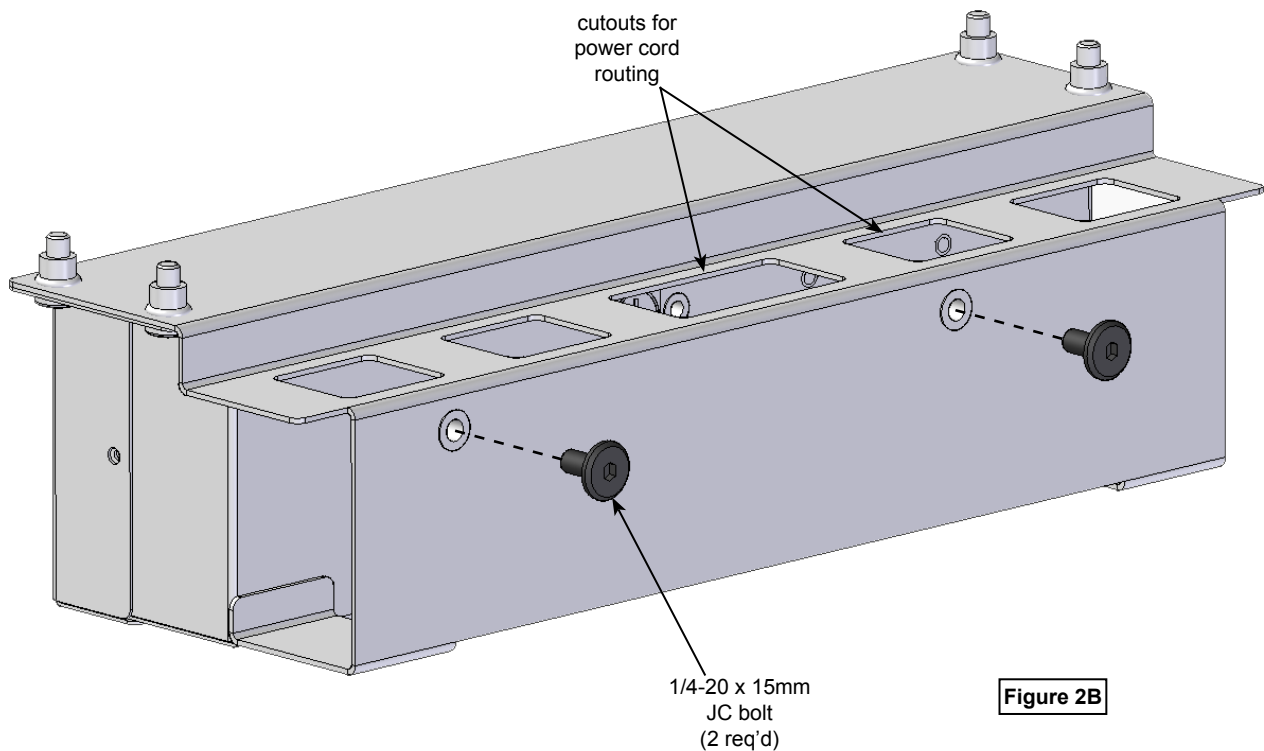

Figure 2B
2. Attach the cycle timer with (4) 1/4-20 x 5/8" PHM screws and tighten securely. **Figure 2B.**
3. Install (2) 1/4-20 x 15mm JC bolts into the back of the adapter bracket as shown. **Figure 2B.**